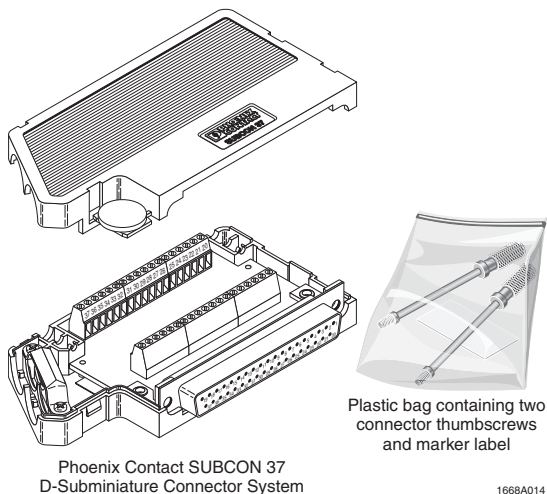
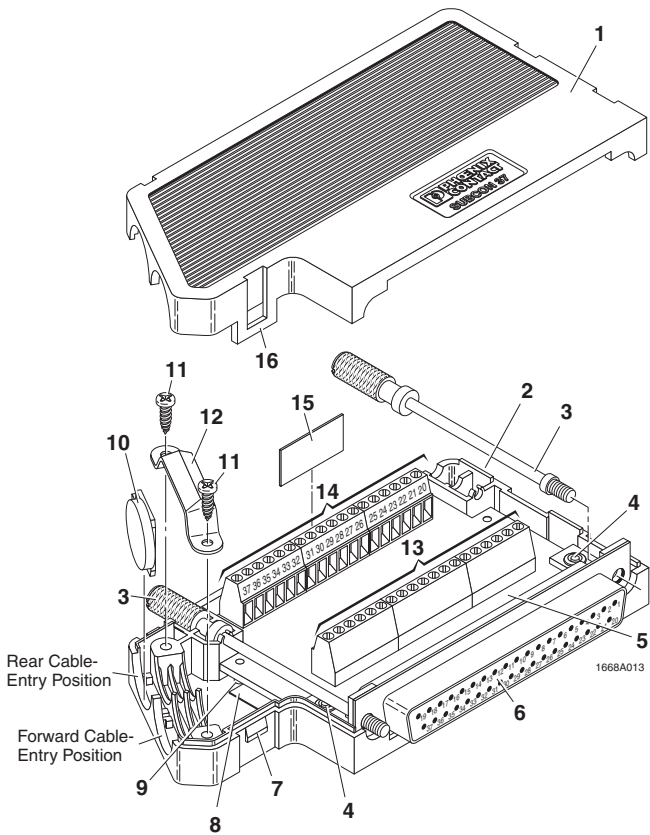
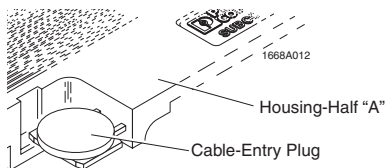

Figure 1. Components of the SUBCON 37 D-Subminiature Connector
Figure 2. Exploded View of the SUBCON 37 D-Subminiature Connector
Figure 3. Cable-Entry Plug Shown Attached to Housing
This SUBCON 37 D-sub connector was inspected prior to shipment. After connector is unpacked, inspect all items for possible damage that may have occurred during shipment. Contents applicable to the SUBCON 37 are shown in Figure 1.
Components that make up a typical SUBCON 37 connector are identified in Figure 2. Table 1 provides a description of the items shown in Figure 1. Table 2 at the back of these instructions provides ordering information for the SUBCON 37 connector and Table 3 provides technical data for the SUBCON 37 connector.
**Table 1. Key to Figure 2**
The SUBCON 37 connector comes from the factory with a cable-entry plug, shown in Figure 3, that is lightly attached to housing half "A" (see Figure 1). To prevent the plug from breaking off and being lost, we recommend that you remove it and store it safely away until needed.
- Obtain the blank connector identification label from the plastic bag that came with the SUBCON 37 (see Figure 1).